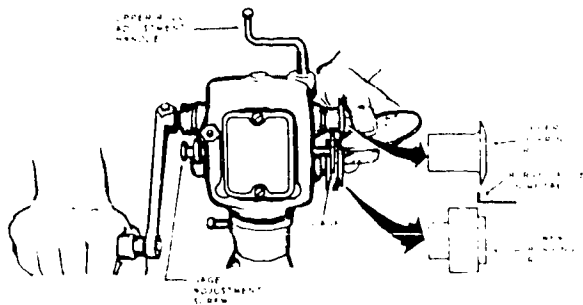

Figure 3-7. Rotary burring machine.
**Rotary burring machine.** A burring machine, such as that shown in figure 3-7, is used to turn flanges and edges on circular discs and cylinders. It is also used for turning edges on elbows and for making double seams and single kems when other machines are not available. An important thing to remember is that it will take considerable time, effort, patience, and practice to turn out a good job.